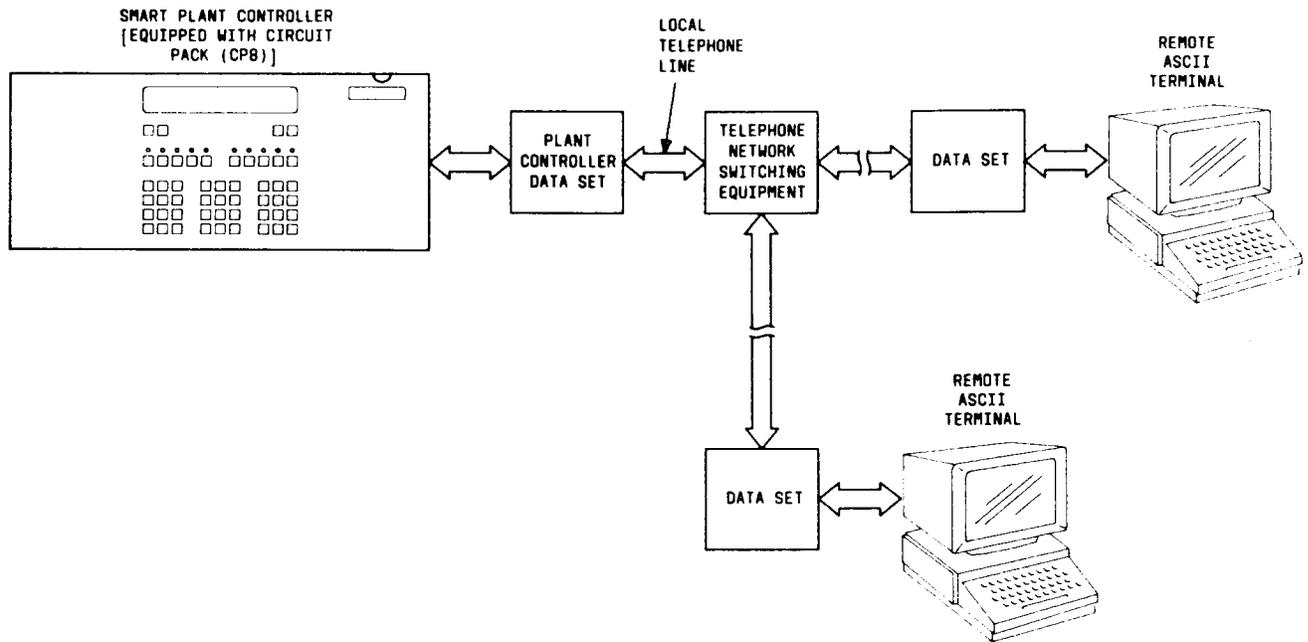

Fig. 7—Smart Plant Remote Interface
3.21 **Remote Interface Option:** The MC-80013-B1 remote interface (Option T) circuit pack (CP8) and data set (modem) (Option M), provides access to power plant data, status, major alarms, minor alarms, and diagnostic messages from remote terminals anywhere in the world (Fig. 7). The remote interface circuit pack (CP8) may be plugged into any position (P2 through P7) in the optional card cage and the connection to the modem must be in the corresponding position.